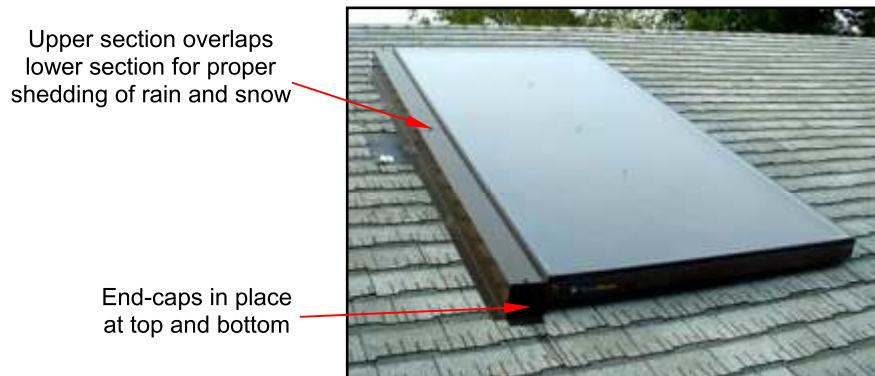

Fig. 7.1.1 – Collector side-flashing. Note roof-penetration boot under side-flashing.
3. Insert rectangular caps into upper and lower holes created by side-flashing and collector (Fig. 7.1.1). Secure to roof with included roofing screws. Secure to upper and lower side-flashing with included self-drilling screws.